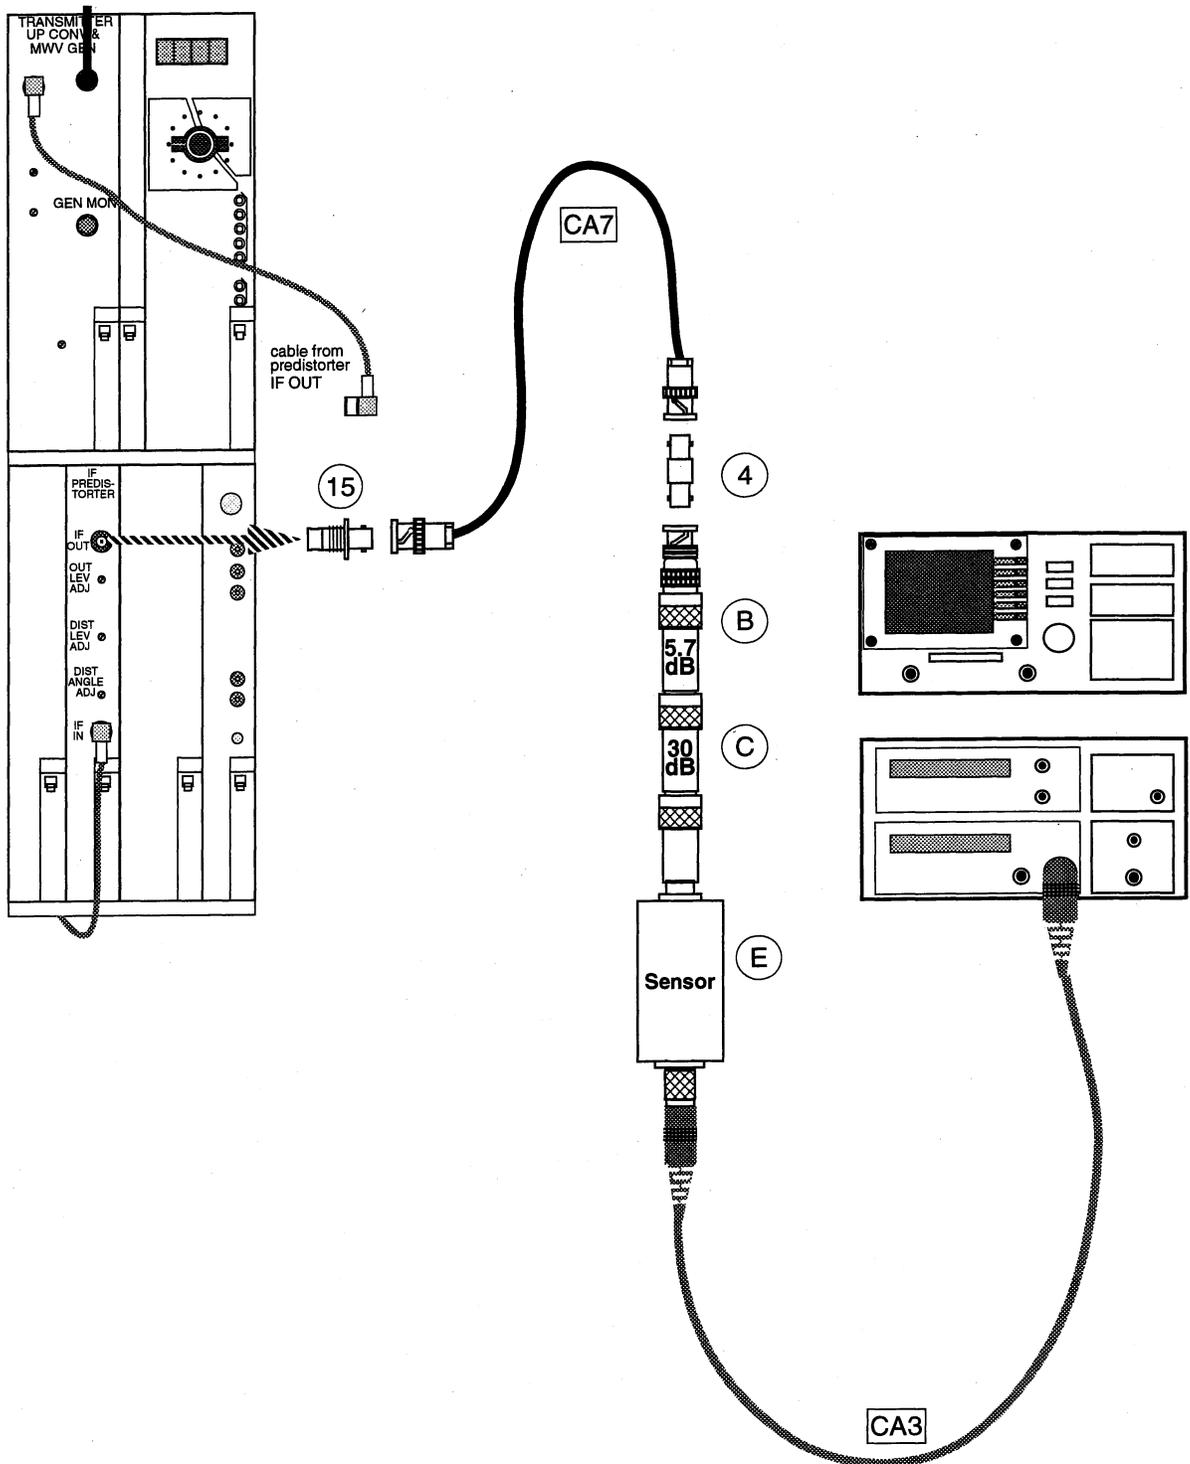

Figure 4. IF Predistorter Output Level Check
- 7 Connect the test equipment as shown in Figure 4.